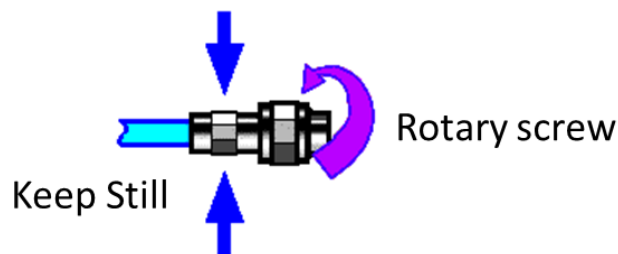

Figure 3.5 Connection method
Step2. As shown in Figure 3.5, move the two connectors leveled together so that they can be smoothly engaged. Rotate the screw sleeve of the connector (note, not the rotating connector itself) until it is tightened, and there can be no relative rotational movement between the connectors during the connection.